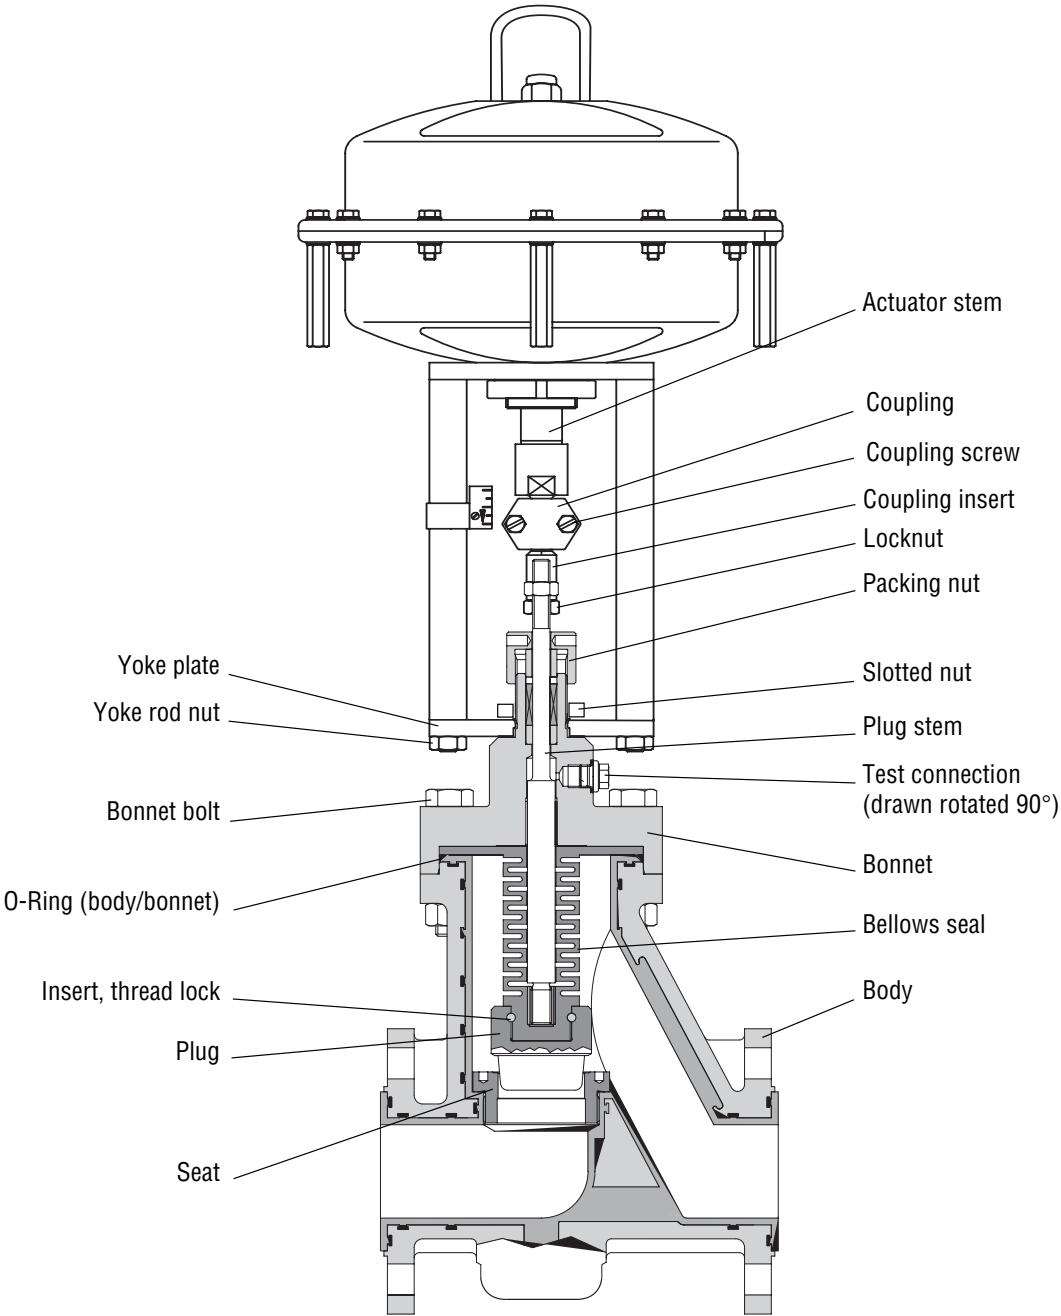

Fig. 1: Typical valve series 132000 with series 2 actuator
- 17.1 Check gaskets for leakage and retighten bolts if required (see Fig. 1).
(See Fig. 1)
(see Fig. 1)